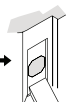

Figure 4d
- Chisel 5/32"(4mm) deep for Strike Plate or until it is flushed (Figure 4d).